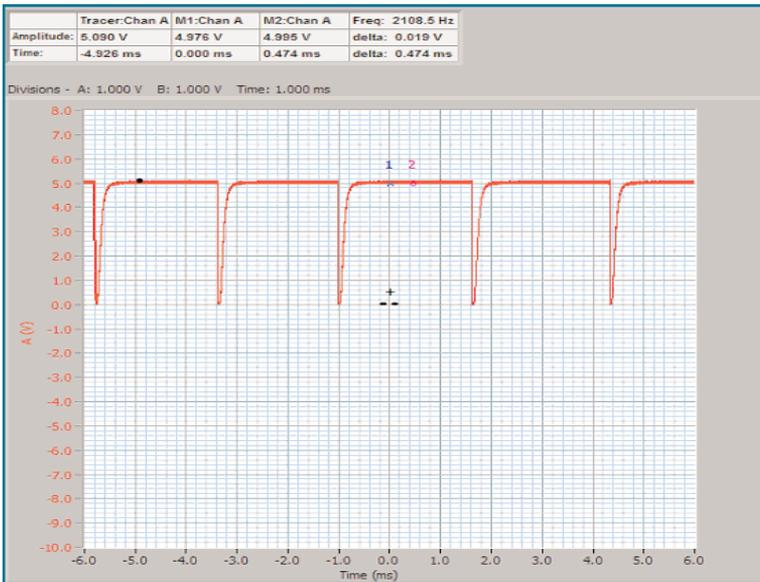

Figure 16: Output pulses of the data collection unit
– Adjust the 330K potentiometer in the Voltage Sensing Module until the output pulses at the opto-coupler has a frequency of 408Hz (in software 408Hz corresponds to 1kW of power dissipation). **Figure 16** shows typical pulses at the output of the opto-coupler circuit.